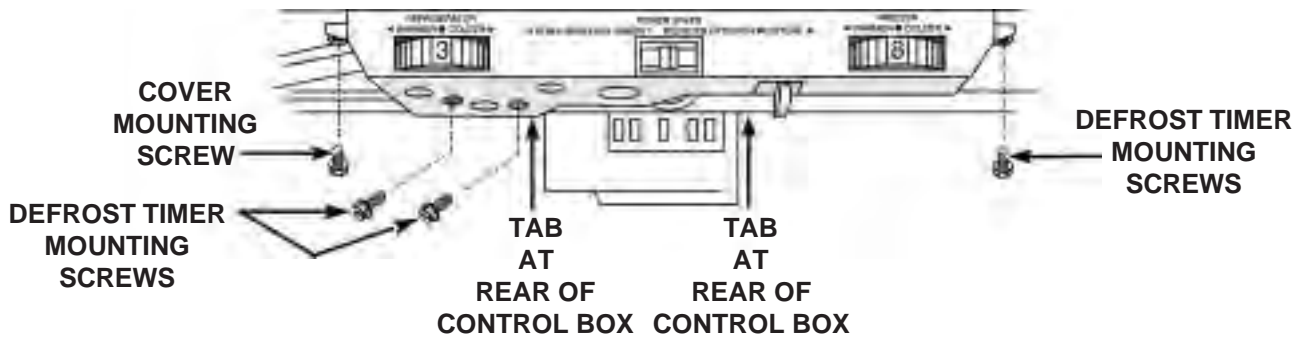

Fig. 26
1. Remove the two (2) mounting screws securing the front of the control box to the bottom of the separator. (Fig. 26)
2. Pull the control box forward to release the two (2) tabs securing the back of the control box to the bottom of the separator.